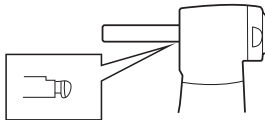

Figure 2.
2.2 Mounting/dismantling of the needle (Figure 2)